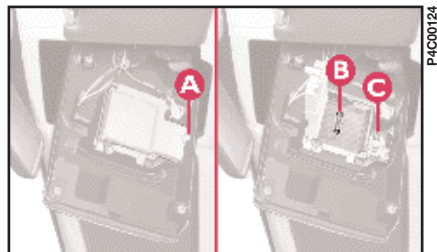

fig. 27
3) Press tab **A** (fig. 27) to open the bulb holder.